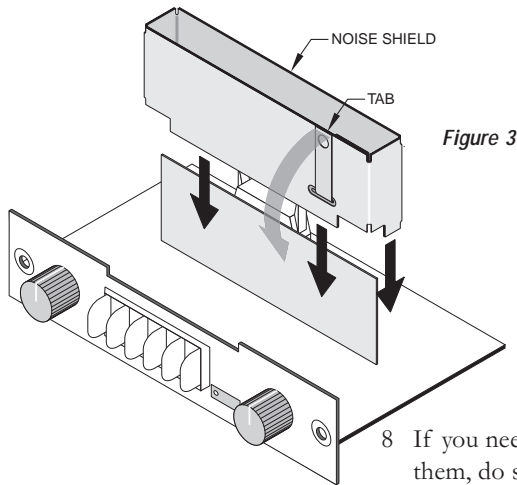
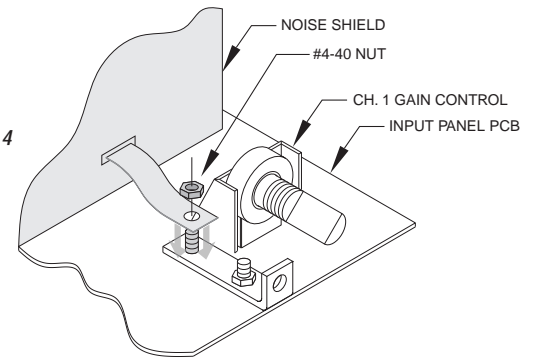

Figure 3
Figure 4
- 9 Using a ¼-inch (6.3 mm) nutdriver, remove the outer 4-40 nut from the stud in the panel mounting bracket, next to Channel 1’s gain control potentiometer. Place the noise shield over the circuit board of the MPC-XU (Figure 3) and bend the grounding tab down so its hole goes over the stud. Re-install the nut, and tighten it securely (Figure 4).
The MPC-XU board has four switches, six 3-pin headers, and four SIP resistor network sockets (see Figure 3). All these are used for programming the module. The circuitry for the two channels is identical, so the switches, headers and sockets are divided between them: those designated by a 3-digit number starting in a 7 (switches S101 and S102, headers J101, J102 and J103; and SIP resistor network sockets RN102 and RN104) are for Channel 1, while those with a 3-digit number starting in a 2 are for Channel 2. The following instructions will use an *x* in place of the first digit, except where a specific channel reference is necessary.